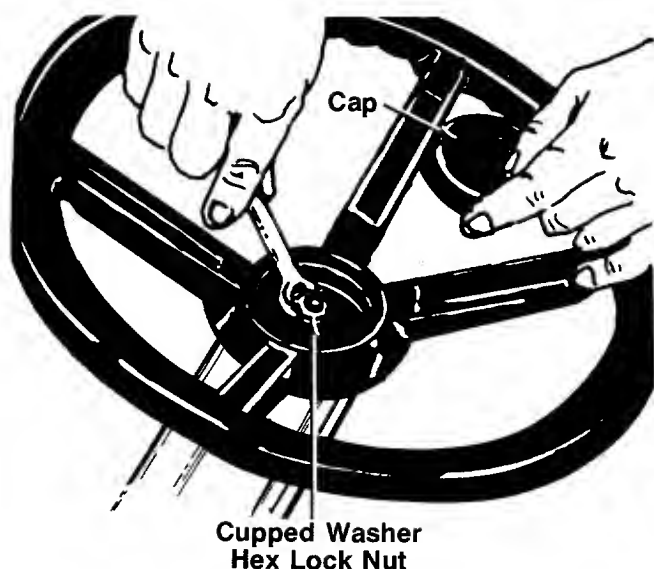

FIGURE 9.
16. Place **steering wheel (C)** in position desired. Make certain the steering wheel is seated over the end of the steering tube.
17. Place the **cupped washer** with the cupped side down over the **steering shaft**. Secure with 5/16" **hex lock nut**. See figure 9.